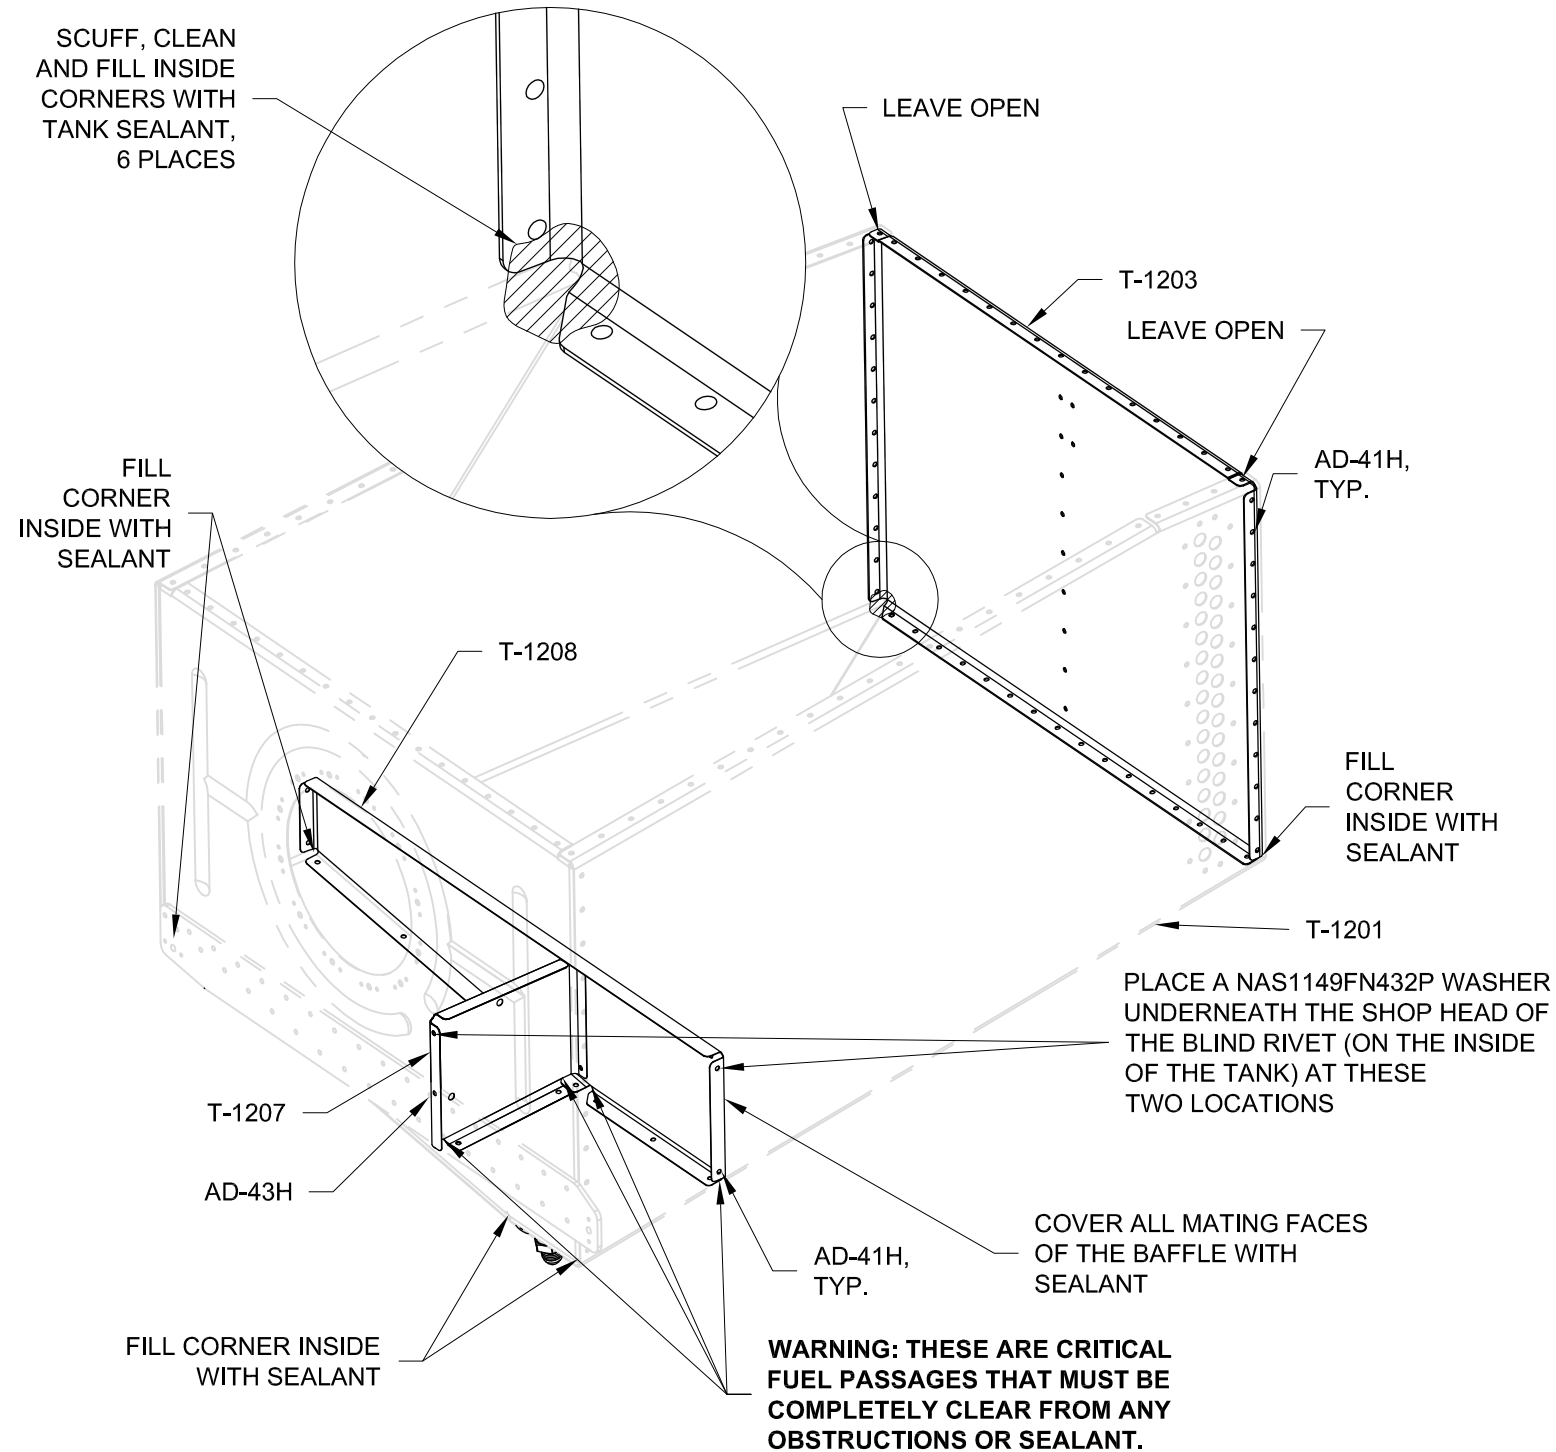
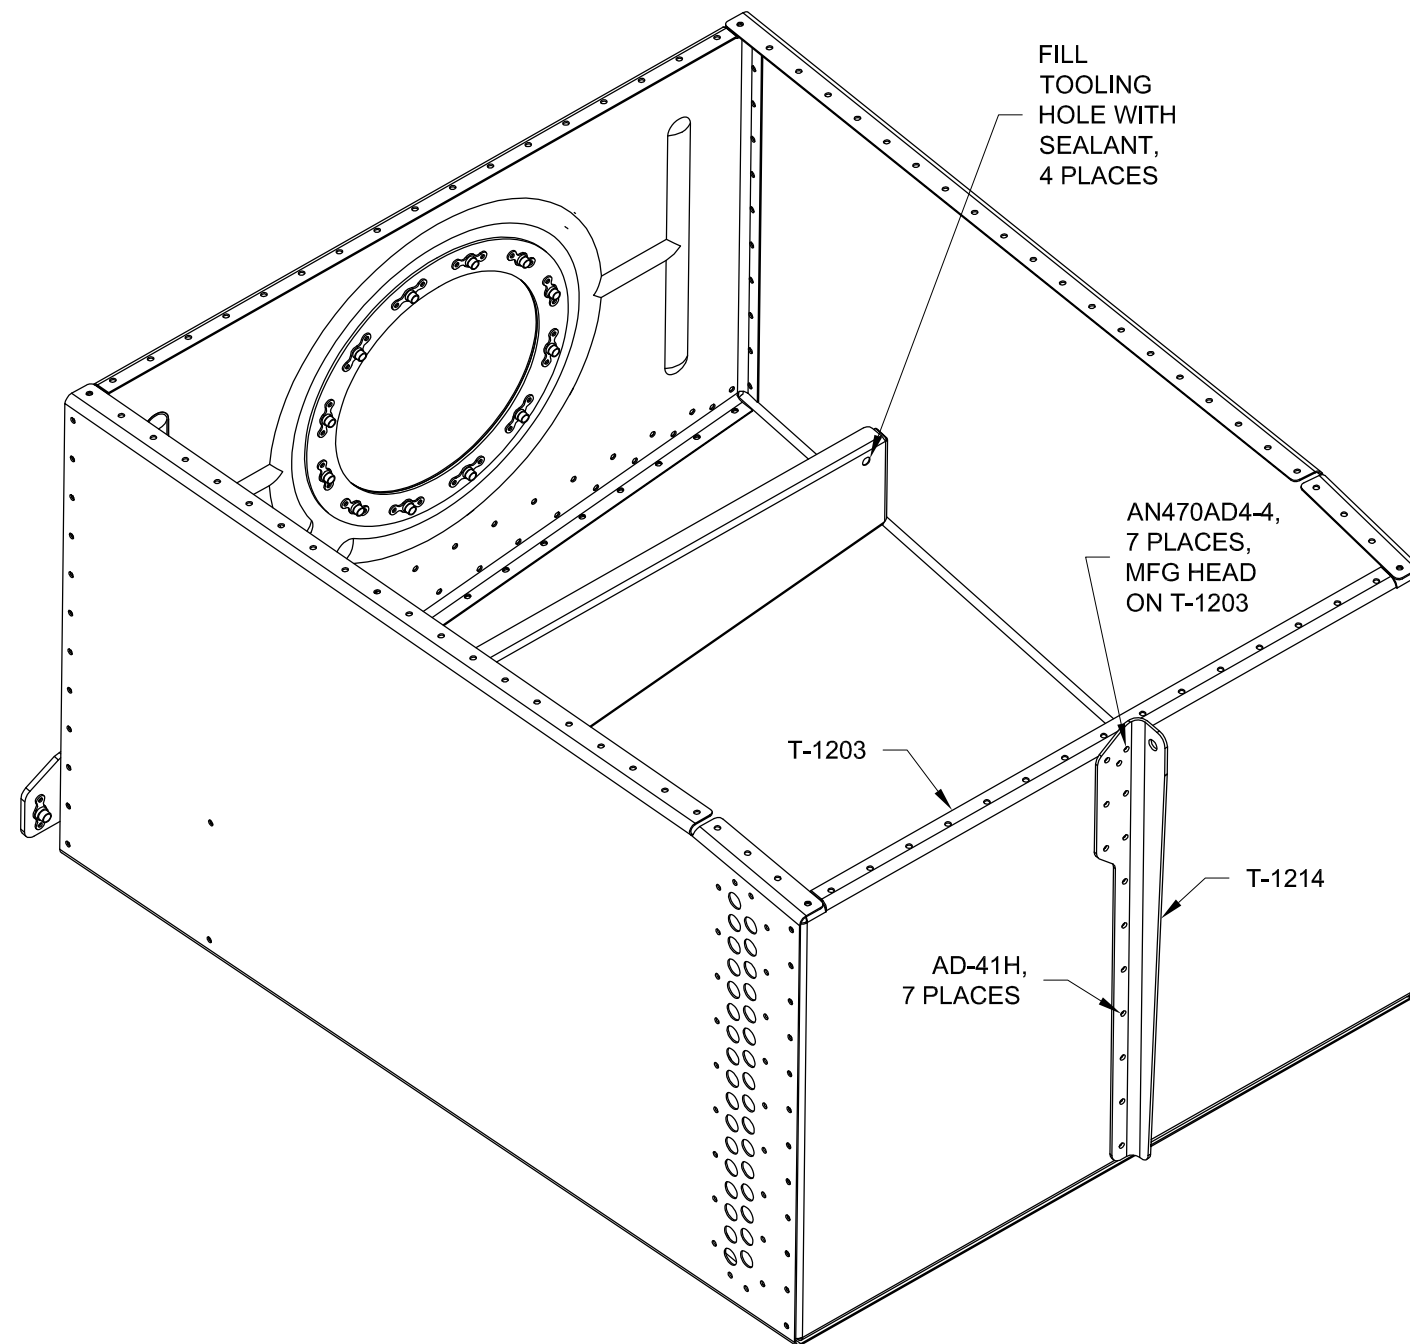

FIGURE 1: BAFFLE AND AFT BULKHEAD
FIGURE 2: INSTALLING THE ATTACH ANGLE
Step 1: Apply sealant to all mating surfaces of the T-1207 Fwd Baffle and T-1208 Baffle then rivet them to the T-1201 Main Tank Skin and rivet them together. Ensure that the two inboard fuel passages of the baffle are free of sealant and that the outboard passage is filled as indicated in Figure 1. Do not apply sealant to the corners of the fwd baffle. Fill the two tooling holes in both of the baffles with sealant as indicated in Figure 2. When finished the only way for fuel, below the top flange of the baffles, to transfer to either side should be through the four critical fuel passages indicated in Figure 1.
Step 2: Rivet the T-1207 Fwd Baffle to the T-1202 Fwd Bulkhead per call-outs in Figure 1.
Step 4: Rivet the T-1203 Aft Tank Bulkhead to the T-1201 Main Tank Skin per the call-outs in Figure 1.
Step 5: Apply tank sealant to the inside bottom corners as shown in Figure 1.
Step 6: Rivet the T-1214 Attach Angle to the T-1203 Aft Tank Bulkhead per the call-outs in Figure 2.